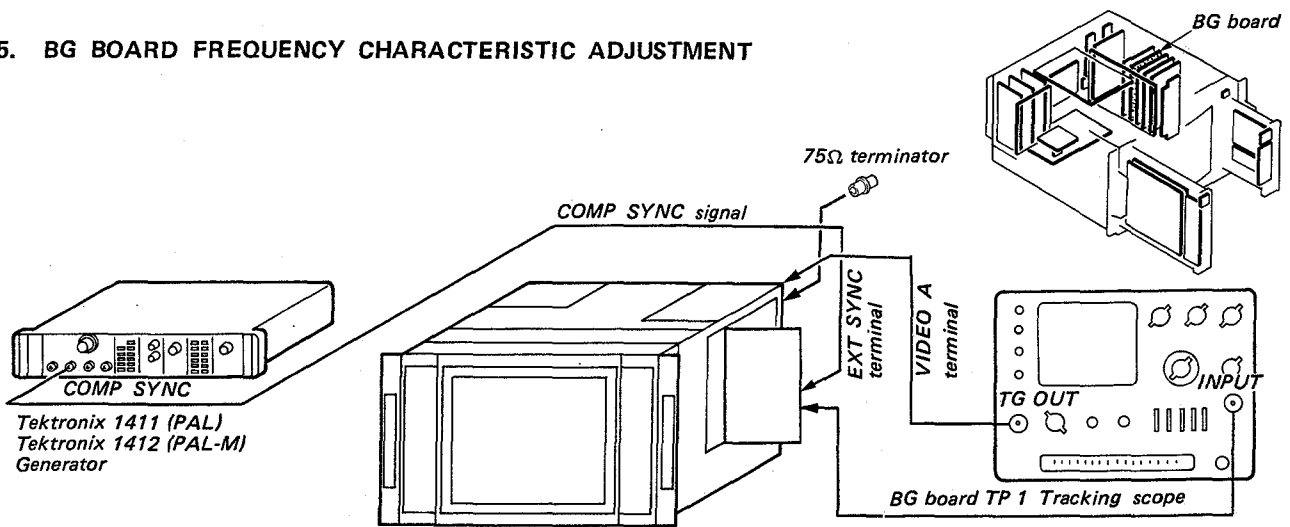
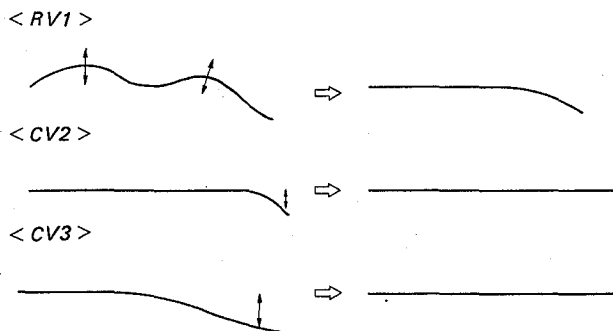

Fig. 5-1
Fig. 5-2
- Complete the connections as shown in Fig. 5-1.
- INPUT selector (FRONT PANEL (R)) A (☒)
- SYNC selector (FRONT PANEL (R)) EXT (☒)
- Adjust RV1, CV2 and CV3 of the BG board so that the output waveform becomes flat in a range of 0 to 10MHz as shown in Fig. 5-2. (within 0±0.5dB)